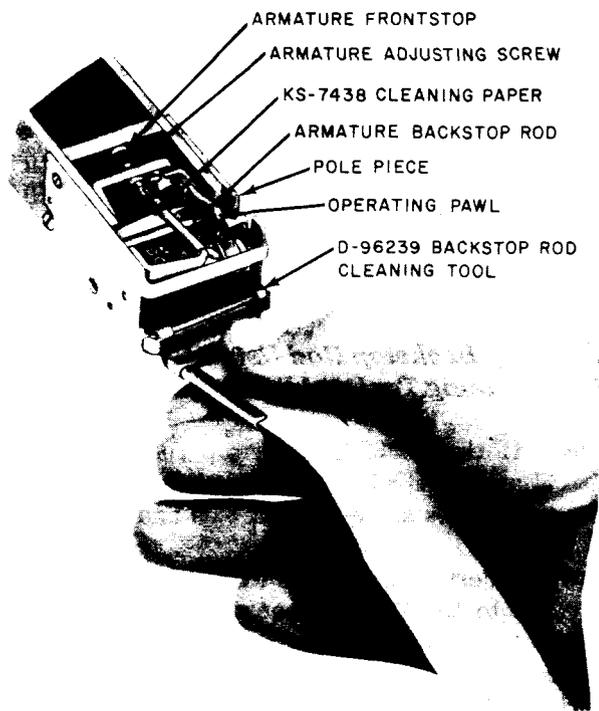

Fig. 1—Method of Cleaning Armature Backstop Rod on 5-Type Register Not Equipped with Balanced Pawl Armature
1.05 The balanced pawl armature referred to in this section was introduced on 5-type registers and is used on all 12-type registers. This armature provides two bearings for the operating pawl instead of the single bearing initially used on 5-type registers and shown in Fig. 1.
- 3.09** Insert a length of KS-7438 cleaning paper into the D-96239 backstop rod cleaning tool so that the paper does not extend beyond the cutting edge of the tool. Then, insert the curved portion of the tool beneath the number wheels of the register and hook the lugs of the tool over the frame of the register as shown in Fig. 1. Feed the cleaning paper slowly through the cleaning tool until the end of the paper raises the operating pawl as shown in the figure.
- 3.10** Place the hooked end of the D-96238 armature holder over the armature, taking care not to operate the register or to unhook the retractile spring. Hold the armature against the cleaning paper with a light pressure. Hold the paper in the cleaning tool, between the thumb and forefinger, as shown in Fig. 1, and withdraw the paper and tool from the register. Tear off the used portion of the paper. Repeat the above operation as many times as necessary until the cleaning paper remains clean after it has been used. Tear off the used portion of the paper before proceeding to the next register.